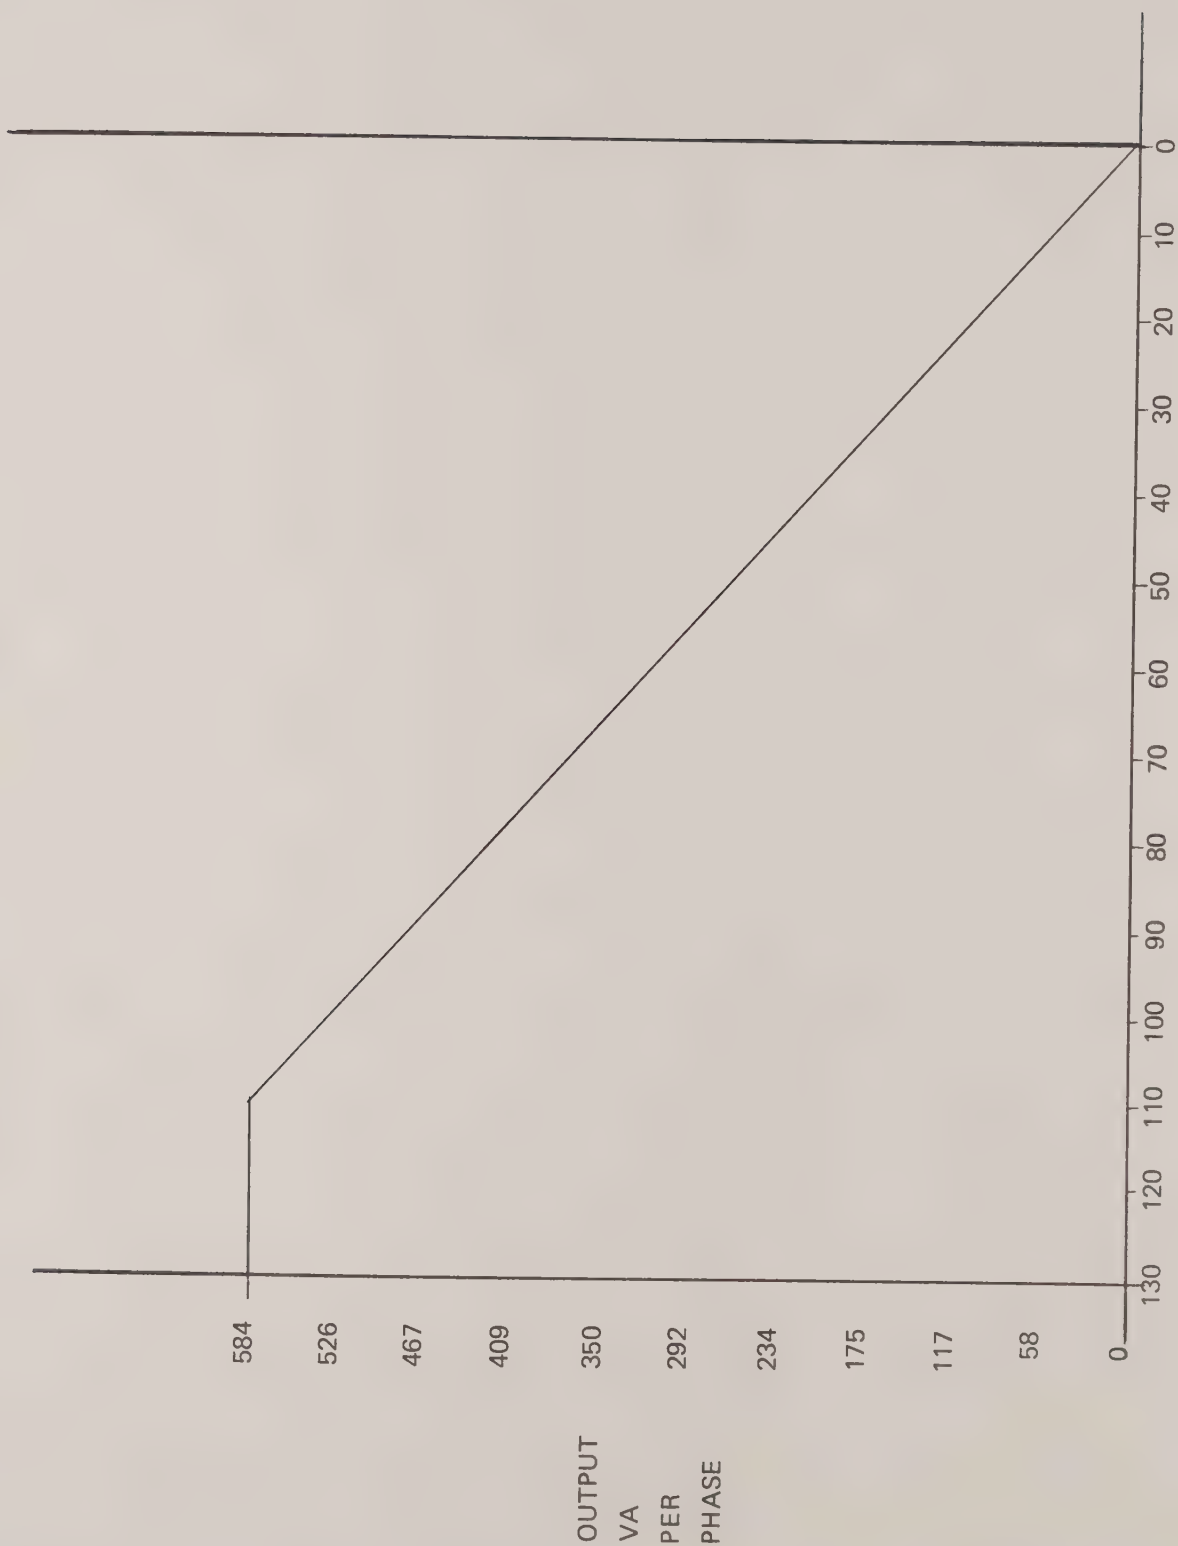

Figure 1-2. Output Power Derating
1-17. Power at less than full rated output voltage is derated as shown in Figure 1-2.
4. **OUTPUT VOLTAGE MONITOR.** See Figure 1-2 for output power derating when operating at less than full-rated output voltage. Select individual A, B, or C phase output voltage for readout at front panel meter by setting OUTPUT VOLTAGE selector to desired position.